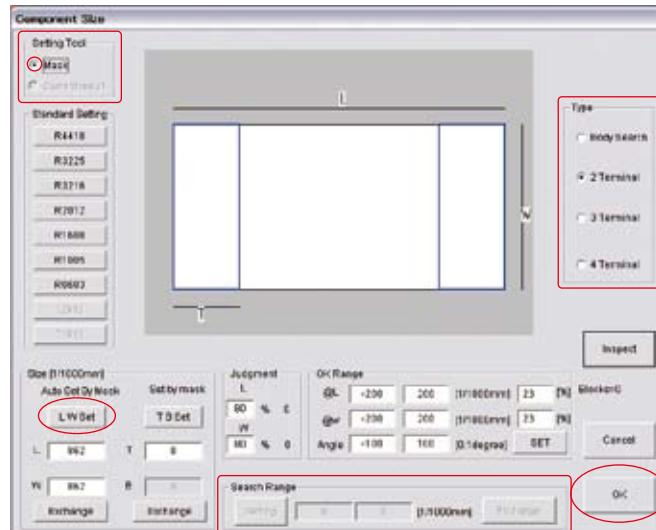

Figure 1-4 LW Setting
Step7: Press **Option** in the right side of **Algorithm**. The window shown in Figure 1-4 appears.